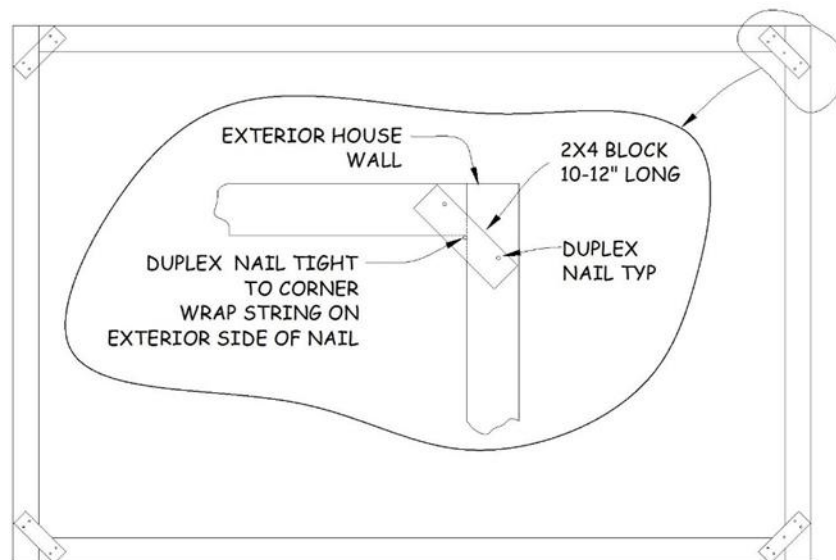

Figure 5-2. Installing String Line.
4. Place the 2x4 piece on top of the 2x6 upper plates at roughly a 45° angle so that the protruding end of the 16d duplex nail rests tightly against the “inside” corner of the upper plates of both walls (see Figure 5-2).